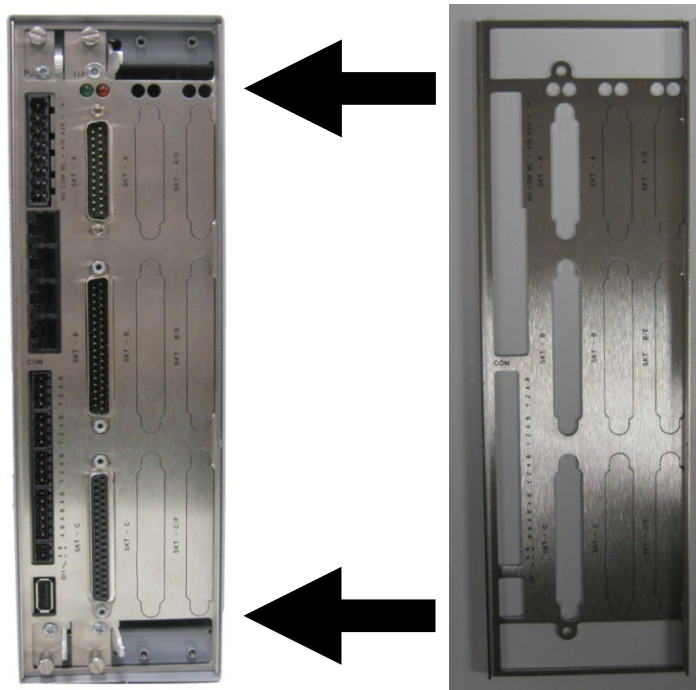

Figure 2-12. Security Backplate in Place
**Note:** In actual operation, the two right-most slots on the S600+ shown in *Figure 2-12* would either contain modules or would be covered by blanking plates.